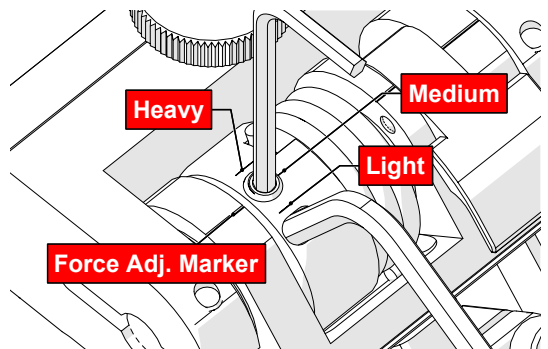

Fig. 58 - Choose desired tension
6. Gently apply pressure on the long leg of the 3 mm hex wrench until the force adjustment marker lines up with the desired spring tension. While keeping the markers in line, tighten the force adjustment screw (Fig. 58).